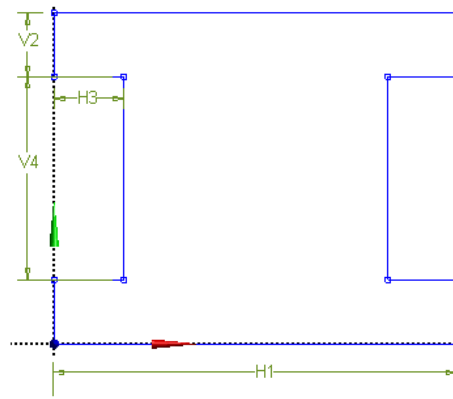

Figure 3-28 Sketch after applying dimensions
5. Select the lines 2, 4, 6, 8, 10, and 12 one by one to apply vertical constraints to them; all these lines become vertical now, refer to Figure 3-28.
6. Select line 10 and place dimension V4 below V2, as shown Figure 3-28.